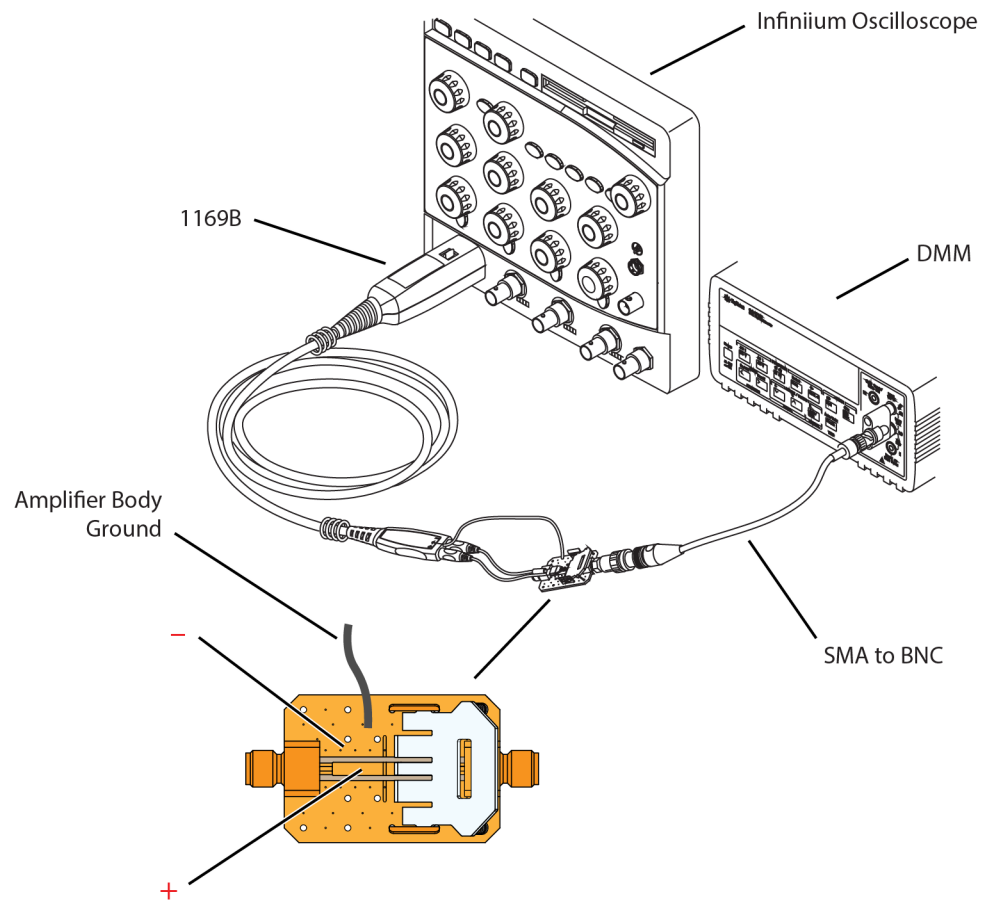

Figure 222 Probing Locations on PV Test Board for Differential Test
- 1 Using the PV/DS test board, connect the positive (+) probe tip to the 34401A DMM as shown in **Figure 222** on page 231. Connect the probe's amplifier body ground to the PV/DS test board ground.